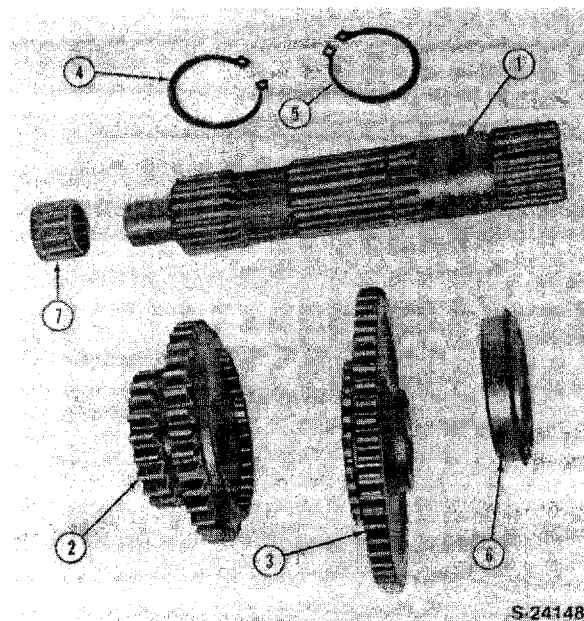

Figure 141
4. Remove the sliding gear (2), countershaft gear (3), snap rings (4 and 5) and rear bearing (6), Figure 141.
5. Remove the needle bearing (7) from inside of the main gear countershaft, Figure 141.